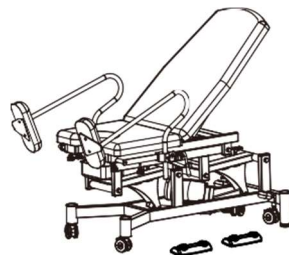

Figure 10
- Step 2: Replace the fixed block with the hole facing outwards, insert the footrest into the fixed block, adjust the pole to a suitable height, and then tighten the knob ①. (figure 10)